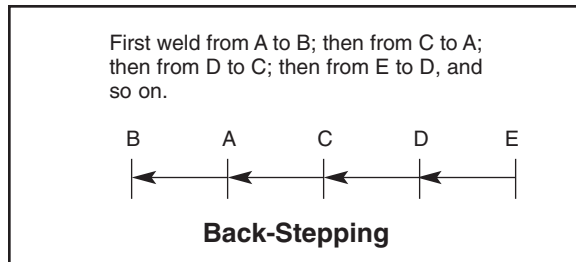

FIGURE 26
3. When welding sheet metal 16 gauge (1.5 mm) and lighter, heat buildup may cause part warpage and burn through. One way to eliminate these problems is to use the back-stepping method illustrated in Figure 26.